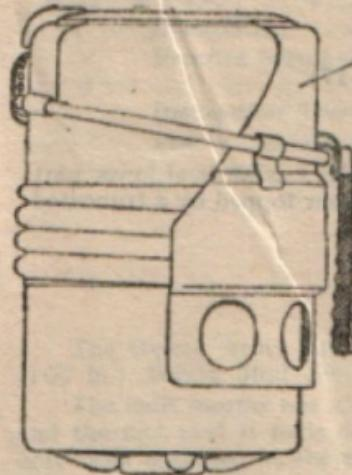

FIG. 15.—S.R.C.M. Mod. 35
25. Hand grenade S.R.G.M., Mod. 35. (See Fig. 15)